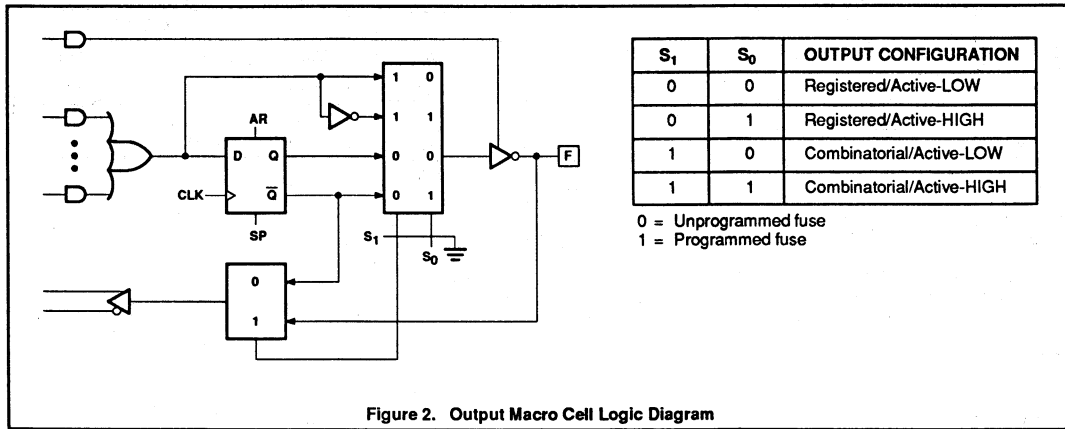

Figure 2. Output Macro Cell Logic Diagram
Active-LOW (see Figure 2). The configuration choice is made according to the user's design specification and corresponding programming of the configuration bits $S_0 - S_1$. Multiplexer controls are connected to ground (0) through a programmable fuse link, selecting the "0" path through the multiplexer. Programming the fuse disconnects the control line from GND and it floats to V_{CC} (1), selecting the "1" path.